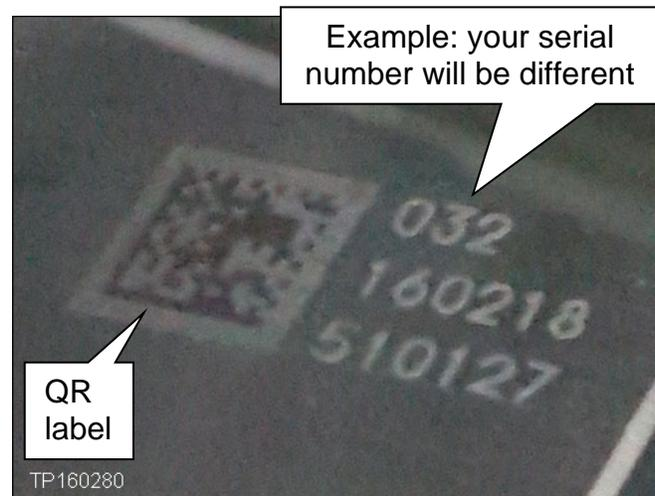

Figure 2A
- If there is no serial number (the area shown in Figure 2A is blank), **skip to step 9** for ABS control unit replacement.
- In the **example** in Figure 2A, the serial number is **032160218510127** (this is an example, your serial number will be different).